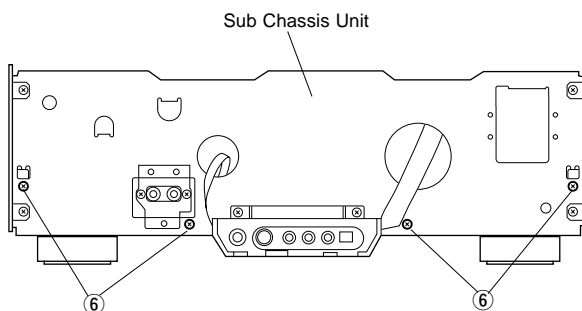

Fig. 2
Remove 4 screws (⑥) and then remove the Sub Chassis Unit in Fig. 2.